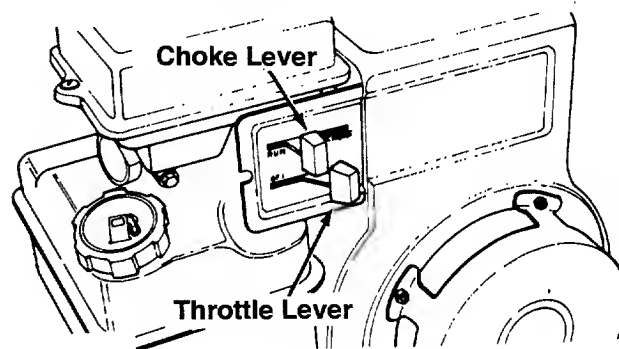

FIGURE 12.
1. Place throttle control lever on the engine in FAST position. See figure 12.